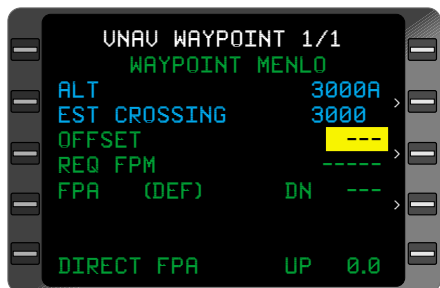

Figure 3-123
***NOTE:** On **NAVIGATION** Pages, only the **TO** Waypoint can be selected. If the waypoint is selected from either the NAV, or Direct pages, Direct FPA information pages will be displayed on the last line of the screen. ( Figure 3-123)*
5. **ENTER Key - DEPRESS.** Cursor moves to **OFFSET** field. (Figure 3-123)